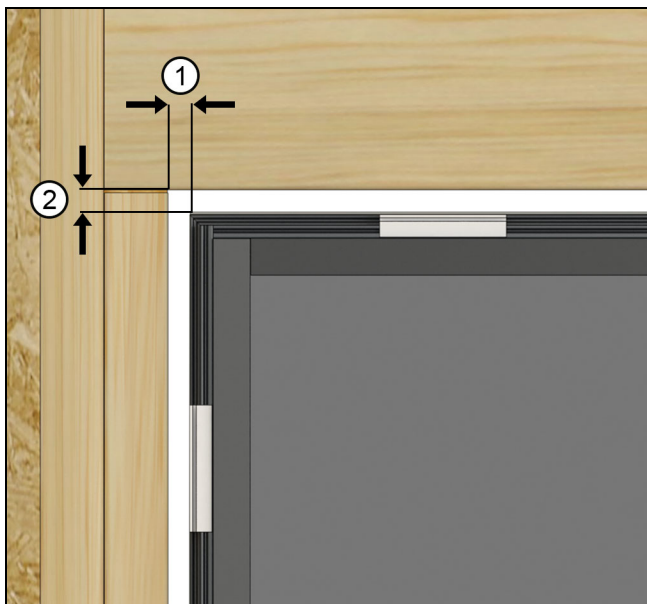

Figure 1 RO Width and Height clearance
1. Rough opening (RO) width may be up to 1 1/2" (38) wider (3/4" on each side) than the outside measurement (OM) of the frame. The RO height may be up to 1 1/2" taller than the OM of the frame. See Figure 1.
*NOTE: Rough opening (RO) width may be up to 1 1/2" (38) wider (3/4" on each side) than the outside measurement (OM) of the frame. The RO height may be up to 1 1/2" taller than the OM of the frame. See Figure 1.*